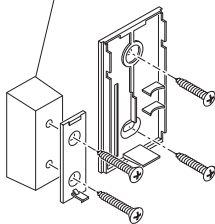

Figure 5
- **Screw mounting:** Remove back of case by pushing in tab on bottom with a small screwdriver (see Figure 2). *Note:* Remove material in screw holes (if needed) before mounting with screws. Attach sensor back cover to wall using two short screws (see Figure 5). Snap sensor onto back cover.